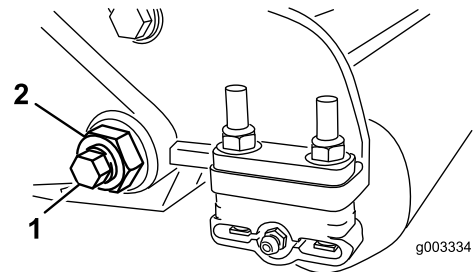

Figure 30
3. On each side of the machine, loosen the locknut securing the bedbar bolt (Figure 30).
4. Remove each bedbar bolt allowing the bedbar to be pulled downward and removed from the machine bolt (Figure 30).